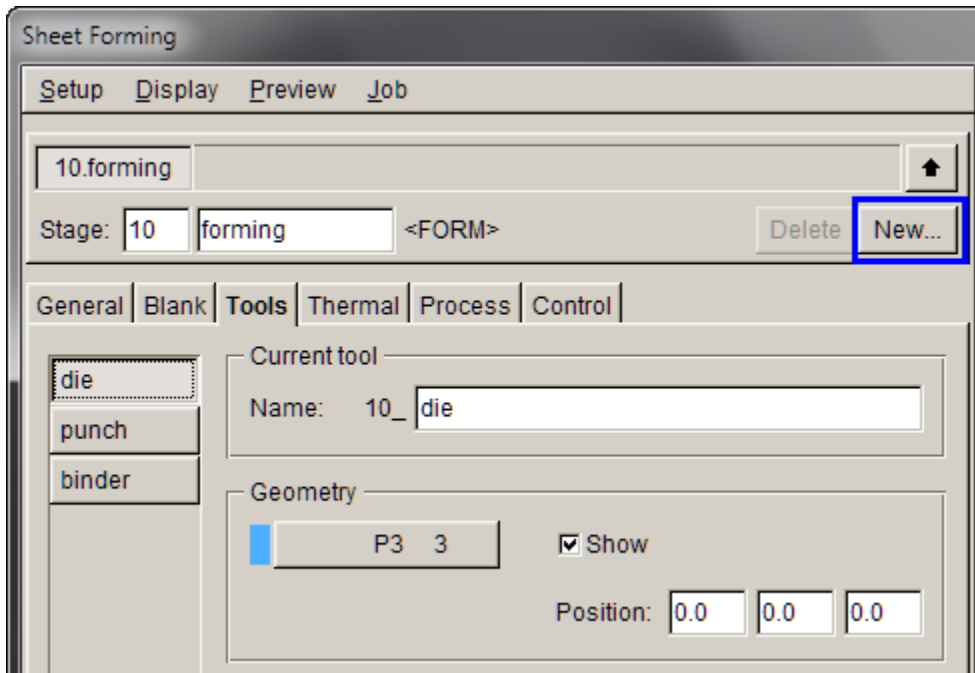

Figure 52
1. Click **New** to add a new stage. See Figure 52.